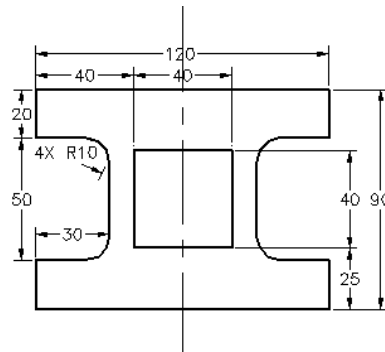

Figure 3-52 The sketch for creating the complete model as single feature
- 1. *Instead of creating the I-section with cutout as three separate features, you can create it as single feature. To do so, create the sketch as shown in Figure 3-52 and extrude it symmetrically by 25 mm on both sides. If the sketch consists of some closed loops inside the outer loop, they will automatically be subtracted from the outer loop while extruding.*